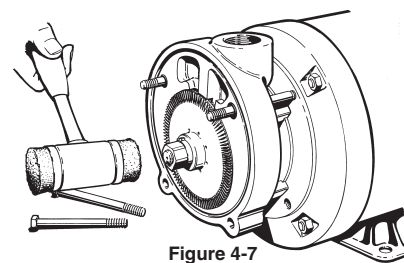

Figure 4-7
2. Remove the two (2) 3/8" nuts (#20), and the two (2) 3/8" X 4" bolts (#19) from the cover. (#2)
4. Remove the impeller (#11), refer to Figure 4-7. The impeller is a slip fit and, under normal conditions, can be removed by gently tapping on the end of the shaft sleeve with a mallet. Leave the impeller key (#23) in place. Striking